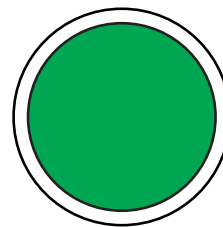

Figure 54. Circuit Breaker ON Button (ON/GREEN)
2. **On the first generator**, press the **Circuit Breaker ON button** (Figure 54).
3. On the second generator, press the **Circuit Breaker ON** button (Figure 54). The voltage and frequency will be automatically adjusted. The circuit breaker will turn **ON** automatically when synchronization is complete.